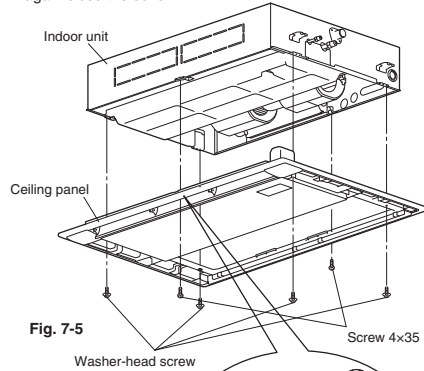

Fig. 7-5
- Fit the supplied washer-head screws into the 4 panel installation holes, and tighten them until the panel is tightly attached to the indoor unit. (Fig. 7-5)